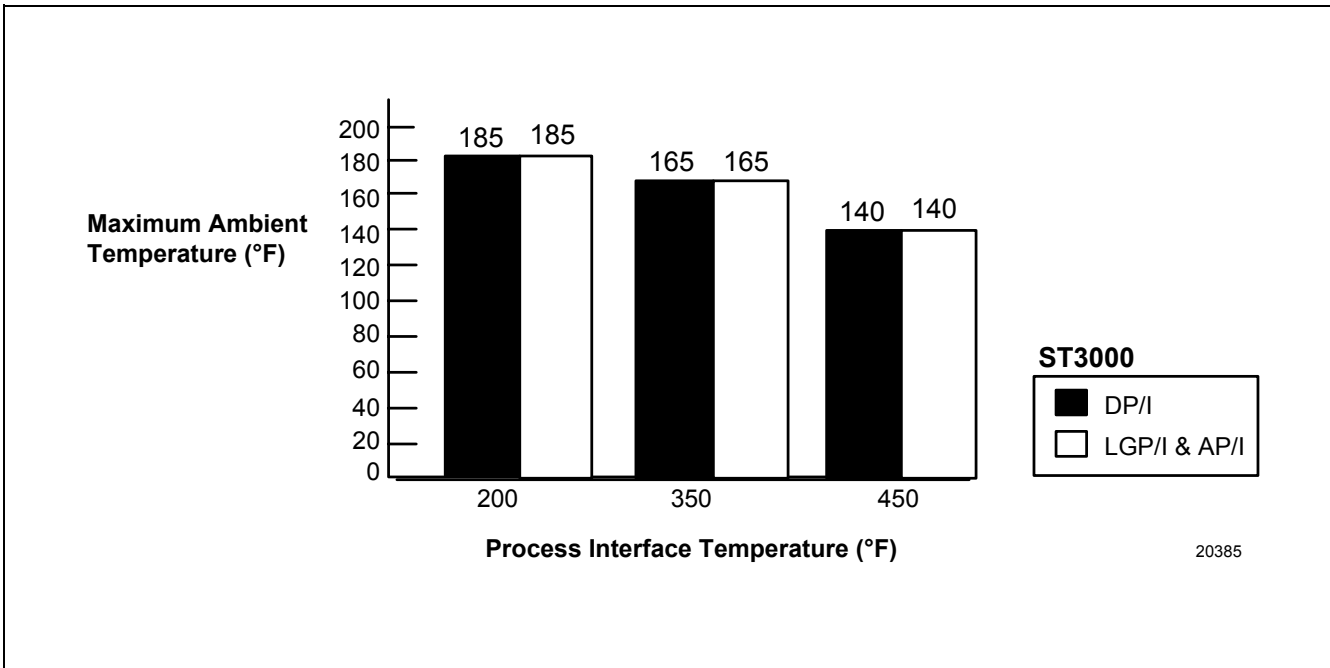

Figure 2—Ambient temperature and process interface chart.
* Ambient Temperature Limit is a function of Process Interface Temperature. (See Figure 2.)